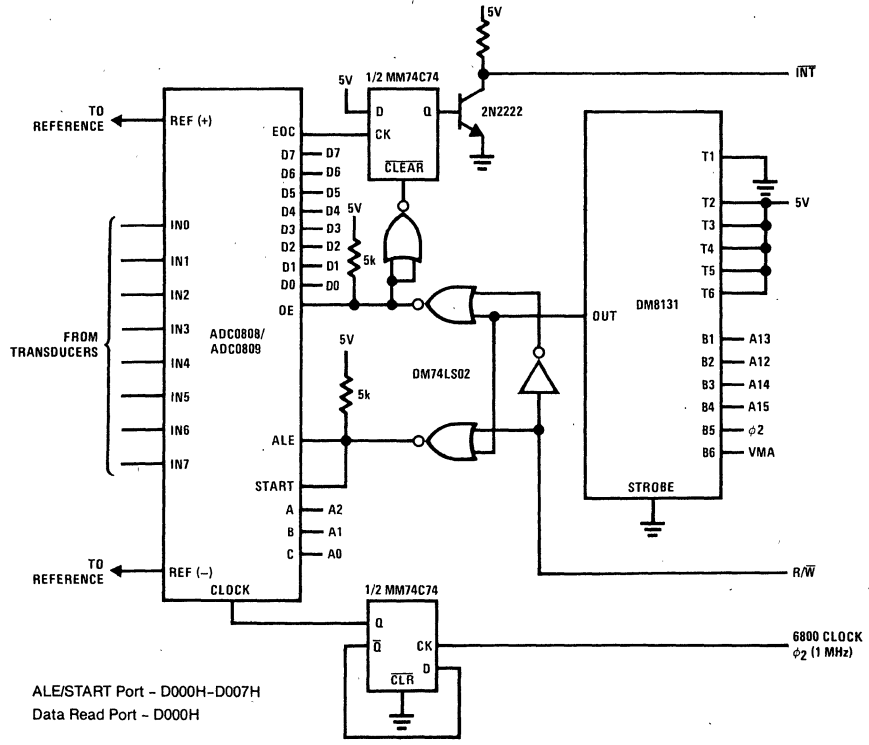
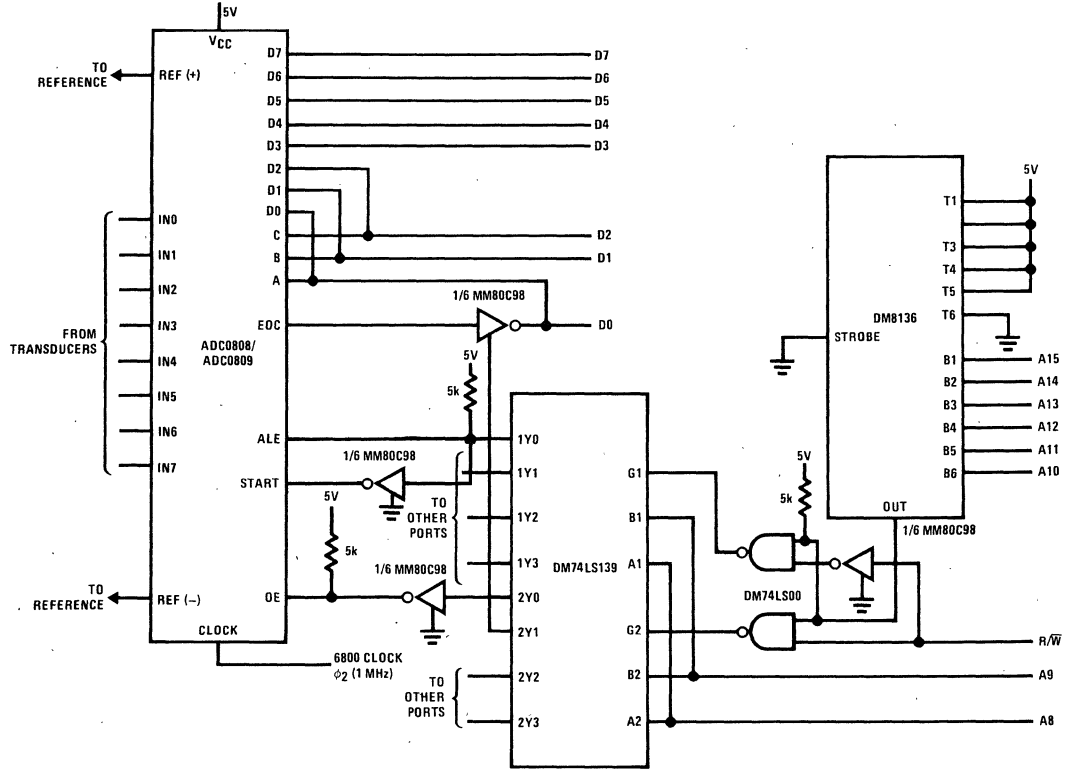

FIGURE 18. Typical 6800 Interface with Partial Address Decoding
FIGURE 19. Fully Decoded 6800 Interface Address
The ADC0808/ADC0809 easily interface to more than one microprocessor. The 6800 can also be used to control the converter. The 6800 has no separate I/O address space so all I/O transfers must be memory mapped. In general more address decoding logic is required to ensure that the I/O ports don't overlap existing memory. For small systems a partial address decoding scheme is shown in Figure 18. Generally, if several ports are desired, a small block of
memory would be set aside, as is accomplished by the DM8131. Figure 18 also illustrates a typical 6800 interrupt scheme using a flip-flop and open collector transistor. The interrupt is reset when the data is read. If more ports are needed, a decoder could be added as shown in Figure 19. Figure 19 also illustrates a polled I/O mode using TRI-STATE® buffer to gate EOC onto the data bus. As with the INS8080 the A, B, C inputs of the ADC0808/ADC0809 can be connected to the address bus or the data bus.
* LOAD AND START CONVERSION (FIGURE 18)
* INTERRUPT HANDLER (FIGURE 18)
* START AND TEST CONVERSION POLLED MODE (FIGURE 19)
* CONTINUOUS POLLING OF EOC (FIGURE 19)